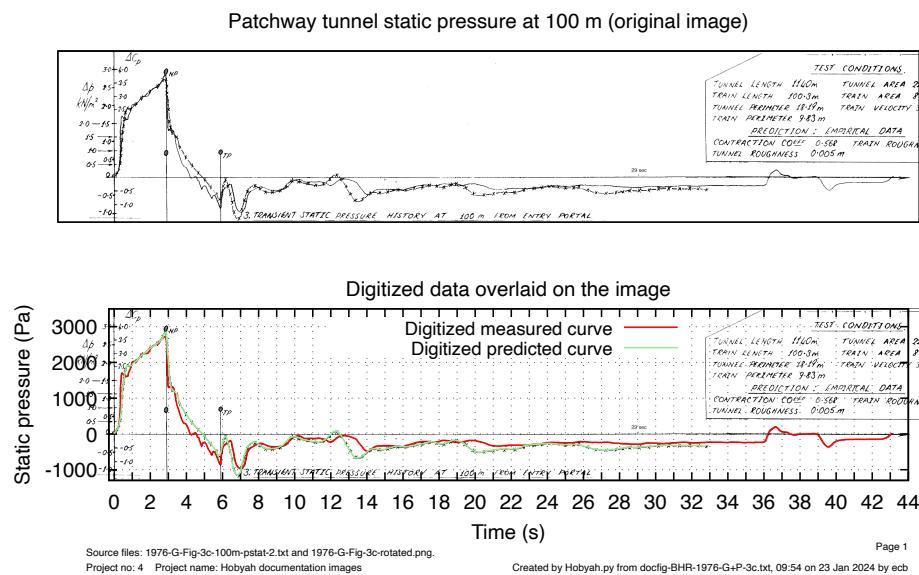

Figure 1.1: Dumb plotting to validate digitized data
I mostly use the dumb plotter function to validate data that I’ve digitized from technical papers that have full-scale test results. Figure 1.1 shows a scan of one of the classic test cases in the tunnel ventilation field: the change in static pressure 100 m from the entry portal of the Patchway tunnel as a train enters (Figure 3c in Gawthorpe & Pope 1976).
The upper image in Figure 1.1 shows a scan of the image from the paper. The lower image shows the same image with a graph of the digitized data overlaid on top of it. Gnuplot has such fine control over its graph placement that the values on the X and Y axes can be lined up and the correctness of the digitization checked.
While your attention is on Figure 1.1, I’d like to draw your attention to the two lines of small text below the lower graph. These are quality assurance (QA)
I also used the dumb plotter function to generate Figures for this manual: Figure 2.1 is one such. All the data plotted on that Figure is contained in its Hobyah input file. Another example can be found in the input file used to generate Figure 1.1, `docfig-BHR-1976-G+P-3c.txt`, which uses data taken from an external `.csv` file.